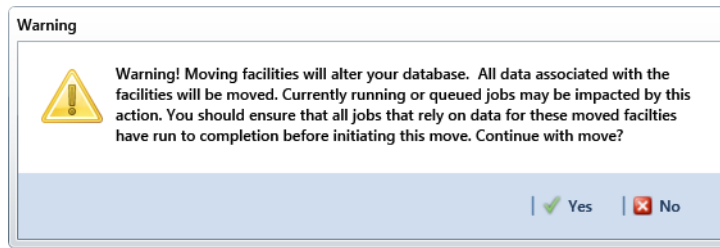

Figure 18-11. Warning Message
- 10 Click  **Yes** in the *Warning* dialog box (Figure 18-11) to complete the move.